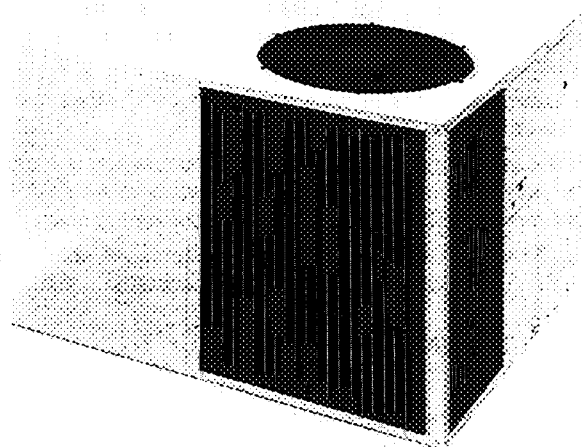

Fig. 1 — Typical 584B Unit
1. Read and become familiar with these installation instructions before installing this unit (Fig. 1).